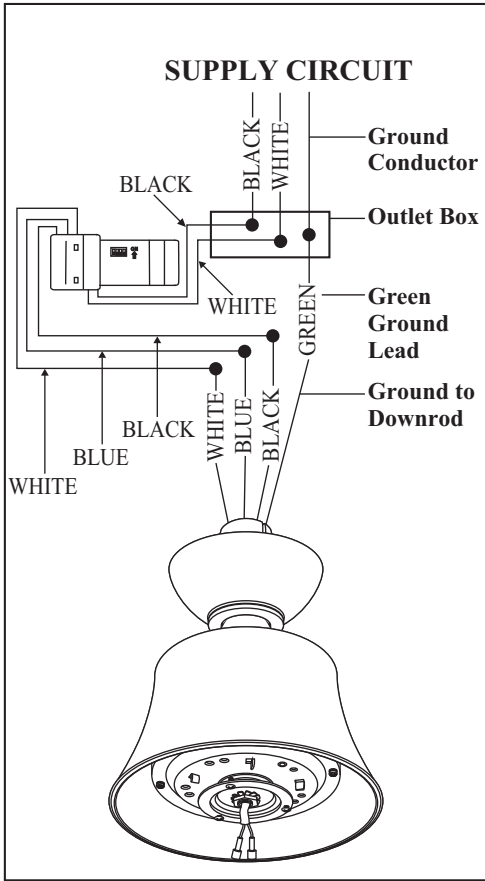

Figure 12
2. (Fig. 12) Motor to receiver electrical connections: Connect the black wire from the fan to the black wire marked "TO MOTOR L" from the receiver. Connect the white wire from the fan to the white wire marked "TO MOTOR N" from the receiver. Connect the blue wire from the fan to the blue wire marked "For Light" from the receiver.
3. (Fig. 12) Receiver and transmitter to house supply wires electrical connections: Connect the black (hot) wire from the ceiling to one of the wall transmitter black wires. Connect the white (neutral) wire from the ceiling to the white wire marked "AC in N" from the receiver. Connect the black wire marked "AC in L" from the receiver to the other wall transmitter black wire.
4. (Fig. 12) If your outlet box has a ground wire (green or bare copper), connect it to the fan ground wires; otherwise connect the hanging ball ground wire to the mounting bracket. Secure the wire connection with a plastic wire nut provided with the electrical hardware. After connecting the wires spread them apart so that the green and white wires are on one side of the outlet box and black and blue wires are on the other side. Carefully tuck the wire connections up into the outlet box.